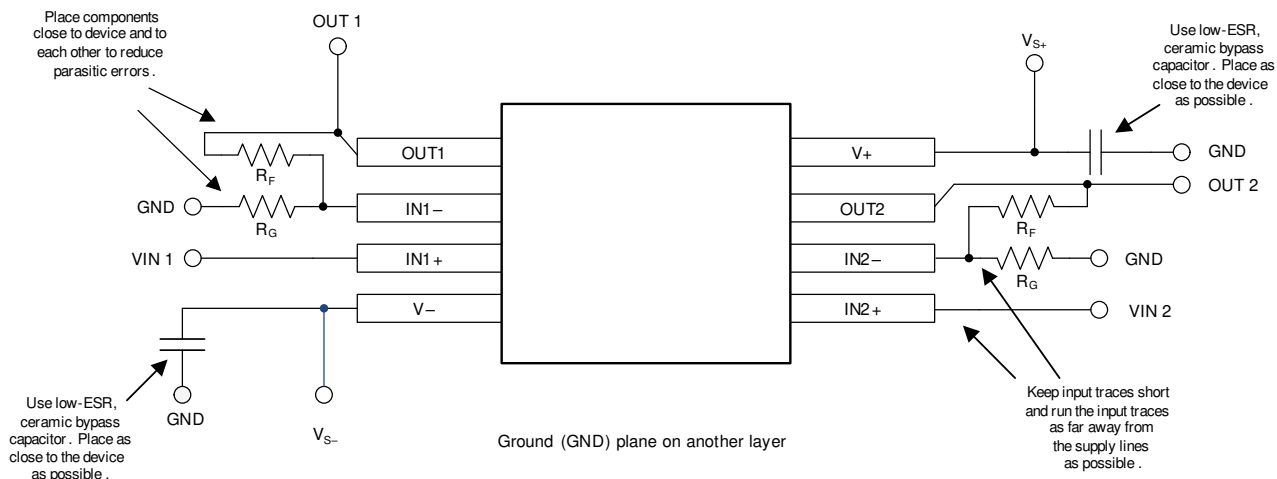

Figure 8-5. Layout Example
- Place the external components as close to the device as possible. As illustrated in Figure 8-5, keeping R_F and R_G close to the inverting input minimizes parasitic capacitance on the inverting input.